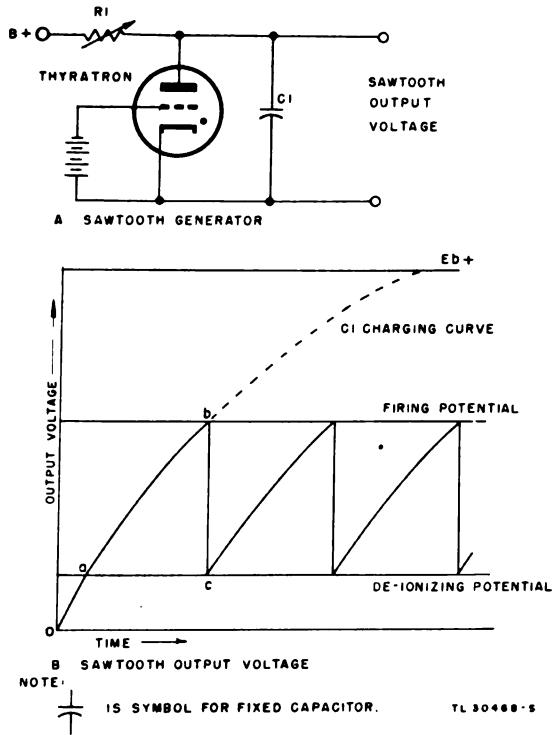
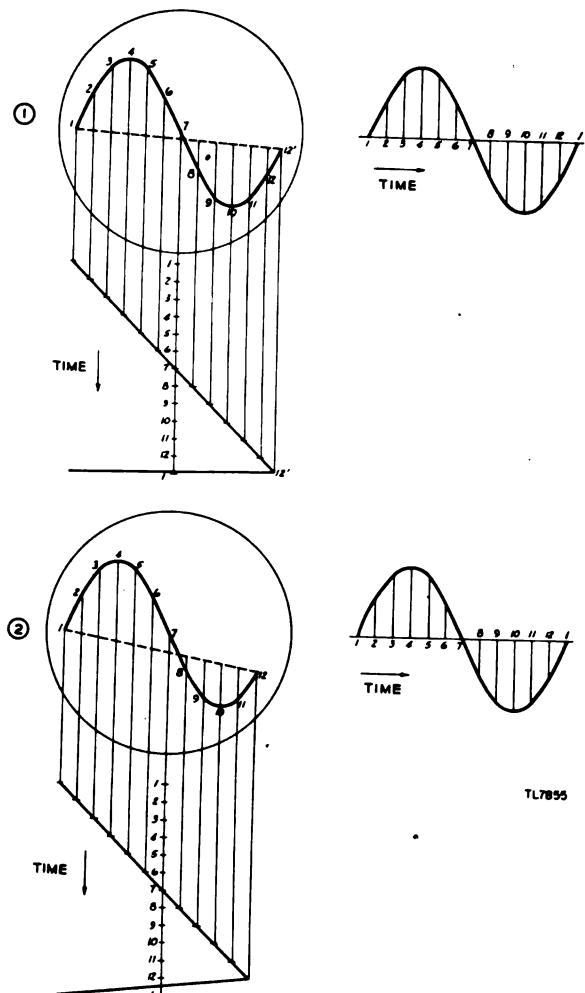

Figure 12. Simple thyratron saw-tooth generator.
Figure 18. Distortion of pattern at high screen frequencies.
tor is shown in figure 12-A. The waveform produced is shown in figure 12-B.
d. Distortion at High Sweep Frequency. The time required for the spot on the oscilloscope screen to return to its starting point and to begin tracing another sweep is a finite time since it represents the time required for the charging capacitor (C_1 , fig. 12-A) to discharge through the thyratron tube. This time is called the *fly-back* time and is represented by bc on figure 12-B. The fly-back time is practically constant for all sweep frequencies and thus becomes a larger proportion of the time of one sweep cycle as the frequency of the sweep is increased. This causes a distortion at high sweep frequencies as shown by figure 18. Assume that the fly-back time is 10 microseconds. In (1) (fig. 18) the period of the 1,667-cycles-per-second sine wave